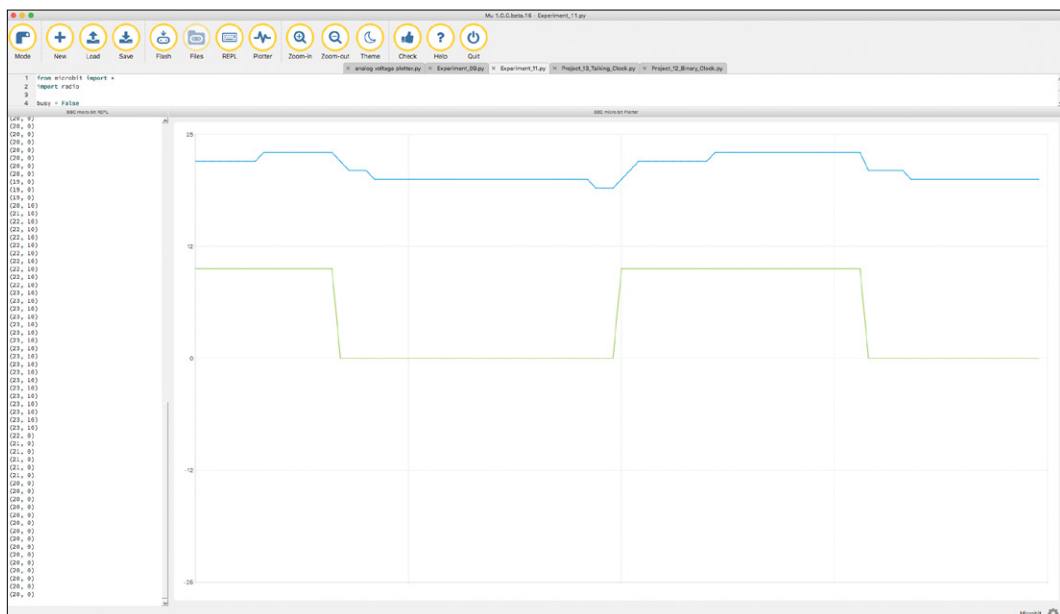

Figure 9-1: Plotting temperature readings and processor activity
2. Open both the REPL and Plotter views of Mu and press **Reset** on the micro:bit to start the reading process. A new temperature reading, and an indication as to whether the micro:bit has been busy or idle, are logged to the Plotter and REPL every 20 seconds. The busy/idle status of the micro:bit flips every 10 minutes. Figure 9-1 shows the result of logging the data for 40 minutes.
As you can see from Figure 9-1, when the micro:bit is in busy mode, the reported temperature rises by about 3 degrees C. When it goes back to idle mode, the temperature drops. Note that the temperature in the room, as measured by a separate thermometer, remained at 20.0 degrees C throughout the experiment.
To easily see when the processor is busy on the same plot as the temperature (Figure 9-1), we multiply the True or False Boolean value of busy by 10. Python allows us to do this! Rather than reporting an error, Python interprets False as 0 and True as 1. Because Python treats the Boolean values as numbers, it lets us multiply them. Then, instead of being either 0 or 1, the value is plotted as either 0 or 10.